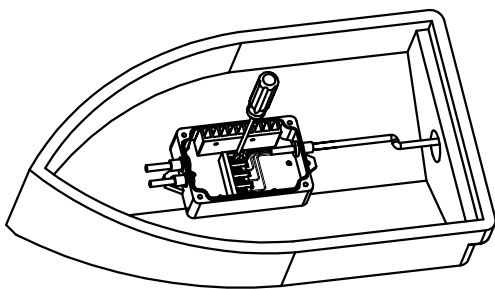

FIG 6
6. According to the wiring diagram(Ref.FIG 8), connect the power supply and switch (Ref.FIG 6). Make sure that all ports are connected correctly, turn on the power and test the function.